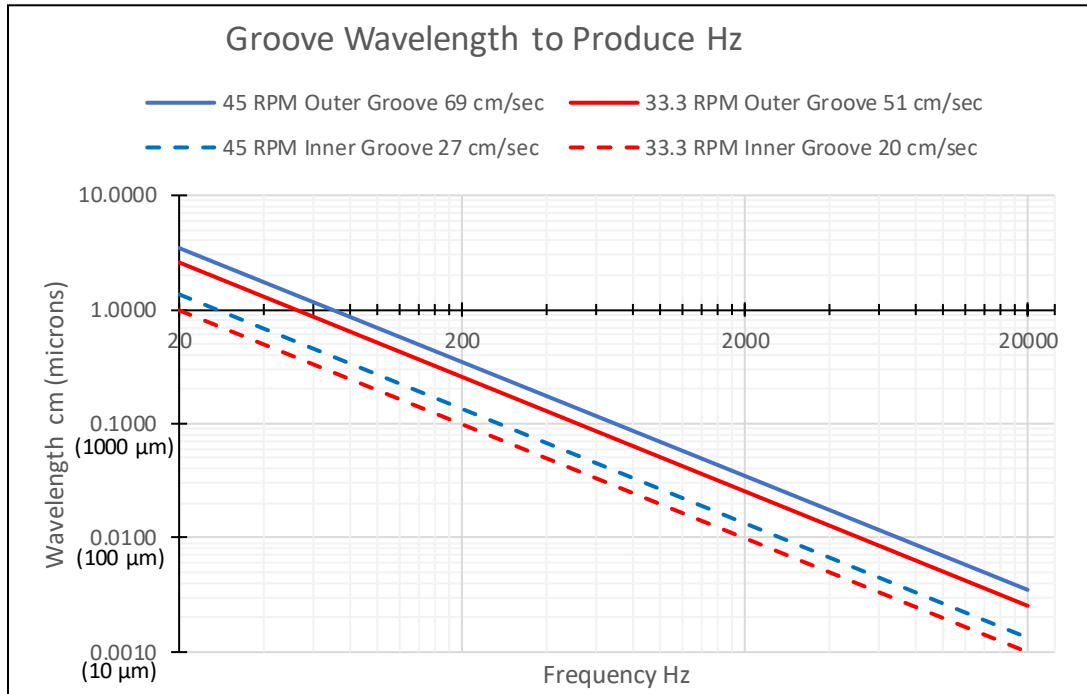

Figure 43 – Record Groove Wavelength to Produce Hz
XI.4.1 While **CHAPTER I. VINYL RECORD CLEANING CHALLENGES:** summarized the groove dimensions and geometry, very little detail was provided. The details of the groove geometry and the dynamic relationship of the stylus to that geometry can be affected by the record cleanliness. The lateral and vertical displacement defines the signal amplitude/output. The record spinning at ~33.333 revolutions per minute (rpm) = 0.56 revolutions per second (rps); the linear (tangential) velocity will vary from 51 cm/sec (20 inches/sec) at the outer-most groove to 20 cm/sec (7.9 inches/sec) at the inner-most groove. **Figure 43** shows simplistically the groove modulation wavelength (ridge to ridge distance) to reproduce various frequencies between the outer and inner-most grooves for 12-inch, 33.333 rpm and 45 rpm records. At the highest frequency the values can be as small as 10 microns for a 33.333 rpm record at the inner groove.
XI.4.5.a The maximum amplitude is generally associated with how wide the groove can be before cutting into the groove next to it. Recalling **Figure 43**, as the frequency increases and as the stylus tracks closer to the inner groove, the stylus has less time to travel from rest to the modulation peak amplitude and therefore higher (peak) velocities occur. The practical limit of peak velocity occurs when the peak velocity of the modulation equals the linear (tangential) velocity of the groove (the speed at which the record passes the stylus). Exceed peak velocity and the “...groove swings become so sharp that the stylus tends to ride up over them instead of traveling around them. (38)”